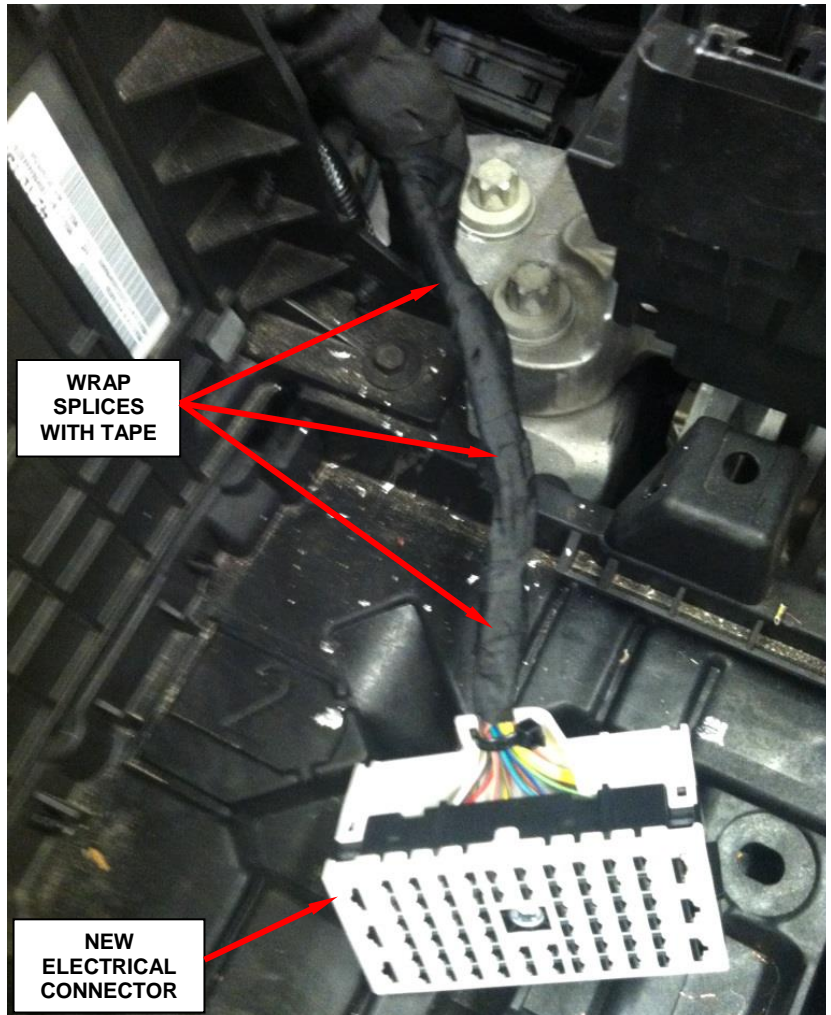

Figure 16 - Wrap Wire Harness Splices with Tape
16. Using the tape specified in this recall, wrap exposed wires with tape (Figure 16).